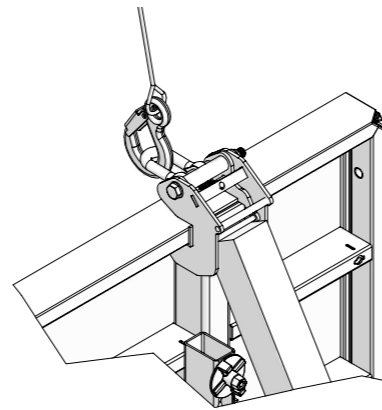

Fig. 6
- The crane hook must be removed from the formwork from a safe working position. Use an extension such as a square timber to open the clamping bracket (Fig. 6).